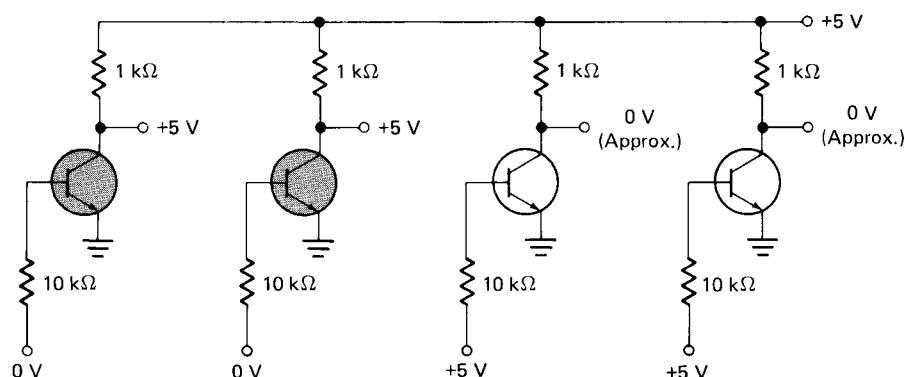

Fig. 1-2 Transistor register.
Here's an example of two-state design. Figure 1-2 shows a transistor register. (A *register* is a string of devices that store data.) The transistors on the left are cut off because the input base voltages are 0 V. The dark shading symbolizes the cutoff condition. The two transistors on the right have base drives of 5 V.
For instance, the base voltages of Fig. 1-2 are low-low-high-high, or binary 0011. The collector voltages are high-high-low-low, or binary 1100. By changing the base voltages we can store any binary number from 0000 to 1111 (decimal 0 to 15).
*Bit* is an abbreviation for binary digit. A binary number like 1100 has 4 bits; 110011 has 6 bits; and 11001100 has 8 bits. Figure 1-2 is a 4-bit register. To store larger binary numbers, it needs more transistors. Add two transistors and you get a 6-bit register. With four more transistors, you'd have an 8-bit register.